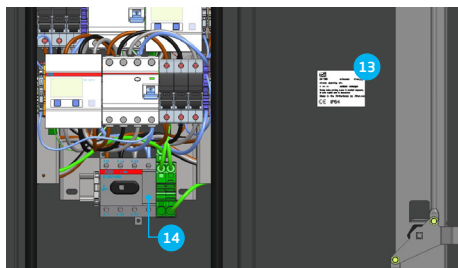

Fig. 2 Location of components
- ⑬ Identification label with identification number of the charging station (see description under the heading "Identification label")
- ⑭ On/off switch 4-pole (see Figure 2 for detailed location)